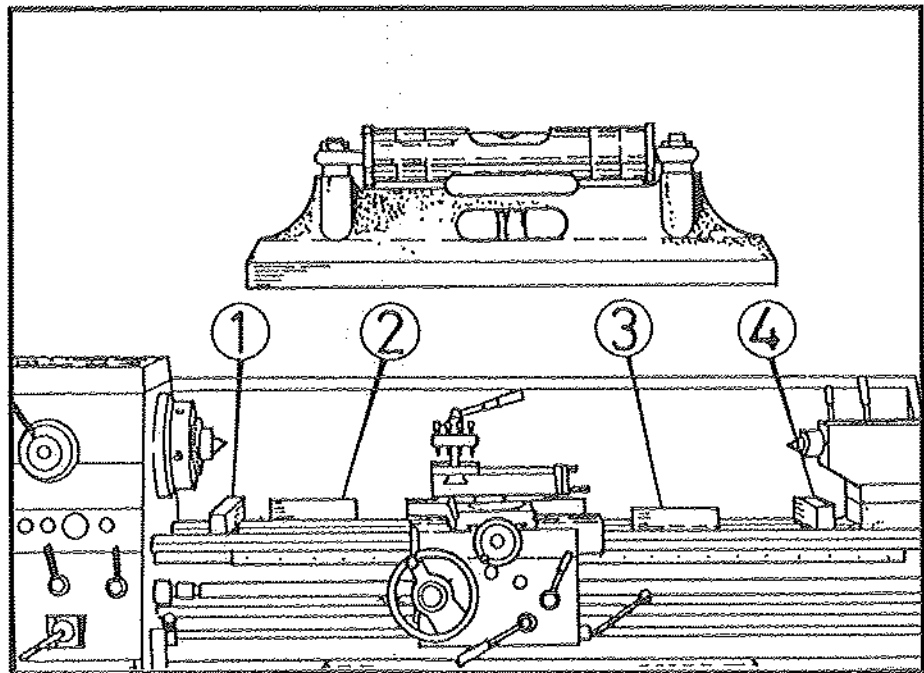

Fig. 2
FREE-STANDING: Position lathe on foundation and adjust each of the eight mounting feet to take equal share of the load. Then using a machinists precision level on the bedways (as in Fig 2) adjust the feet to level up machine. Periodically at least every six (6) months check bed level to ensure continued lathe accuracy.
FIXED-INSTALLATION: Position lathe over eight bolts ($5/8$ in. or 16mm. diam.) set into the foundation to correspond with holes in the mounting feet; dimensions are shown on foundation Plan. Accurately level the machine, as in Fig. 2 then tighten hold-down bolts. Re-check bed level.